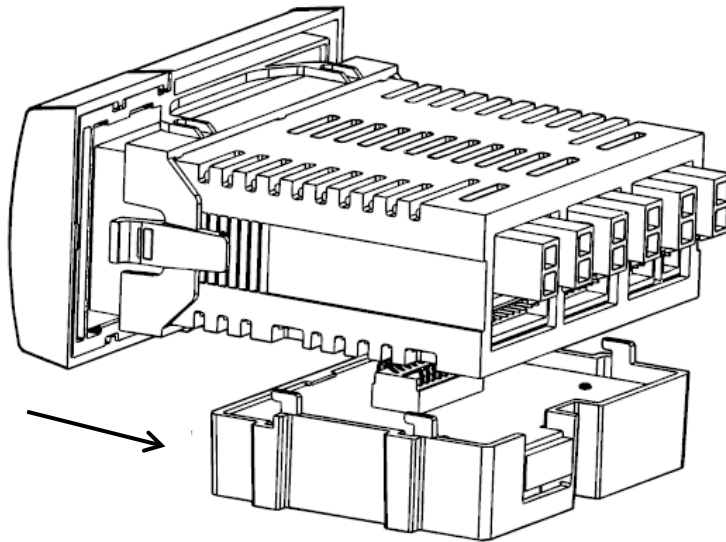

Figure 6: Removing Communication Module from the FX06 Controller
2. Slide the communication module (if fitted) backwards towards the rear of the FX06 controller until the hooks disengage from the module (Figure 6).